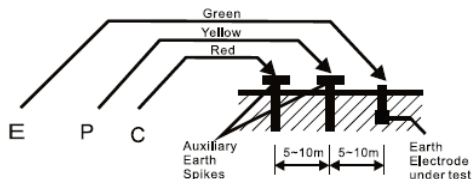

Fig.1
- (1) Connect green, yellow and red test leads to instrument terminals E, P and C with auxiliary earth spikes P1, C1 stuck into earth "IN A STRAIGHT LINE ".(Fig.1)
- (2) Rotary the function switch to suitable range then press the push button to test and take the reading.
\* Follow the proper connection such as Fig 1.